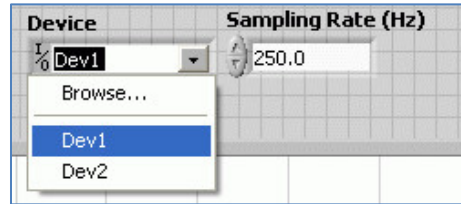

Figure10.2
2. Ensure the correct Device is chosen as shown in Figure 10.2.